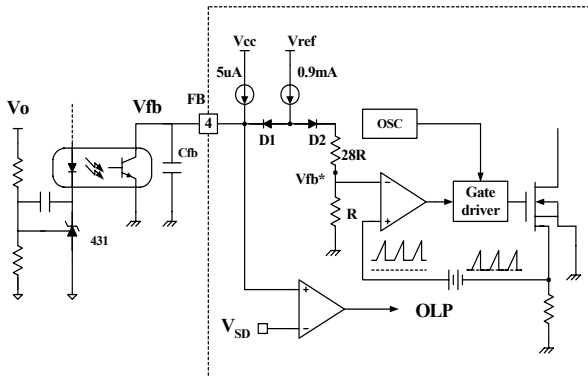

Figure 2. Pulse width modulation (PWM) circuit
**2. Feedback Control :** The FS6X1220R employs current mode control. The voltage of the feedback pin is compared with the current sense voltage for pulse width modulation (PWM). Figure 2 illustrates the simplified PWM block. The feedback voltage determines the peak drain current of the SenseFET. Usually opto-coupler along with TL431 are used to implement feedback network. The collector of the opto-coupler transistor is connected to feedback pin and the emitter is connected to the ground pin. When the voltage of the reference pin of TL431 exceeds the internal reference voltage of 2.5V, the opto-coupler diode current increases, pulling down the feedback voltage.
**3.1 Pulse-by-pulse current limit :** As shown in figure 2, the drain current of the power MOSFET is limited by the inverting input of PWM comparator ( $V_{fb}^*$ ). Assuming that the 0.9mA current source flows only through the internal resistor ( $28R + R = 2.9k$ ), the cathode voltage of diode D2 is about 2.6V. Since D1 is blocked when the feedback voltage ( $V_{fb}$ ) exceeds 2.6V, the maximum voltage of the cathode of D2 is 2.6V. Therefore, the maximum value of  $V_{fb}^*$  is about 0.1V, which limits the peak value of the power MOSFET drain current.